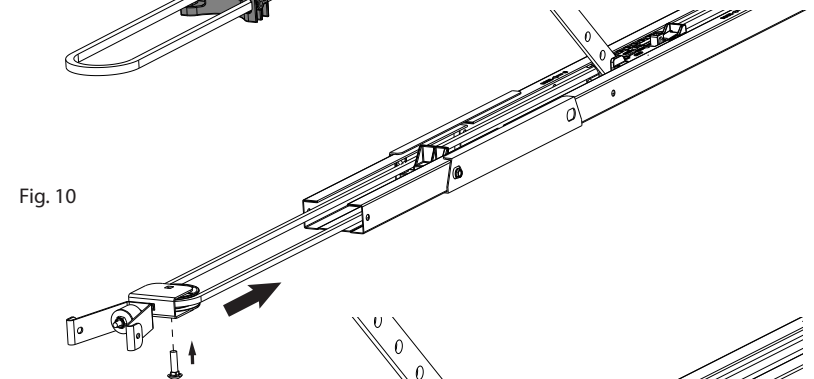

Fig. 10
13. Place the chain into the pulley and align the pulley with the pin hole in the pulley holder. Insert the pin from underneath. It is important that the pin be inserted from the bottom as shown. Fig. 10